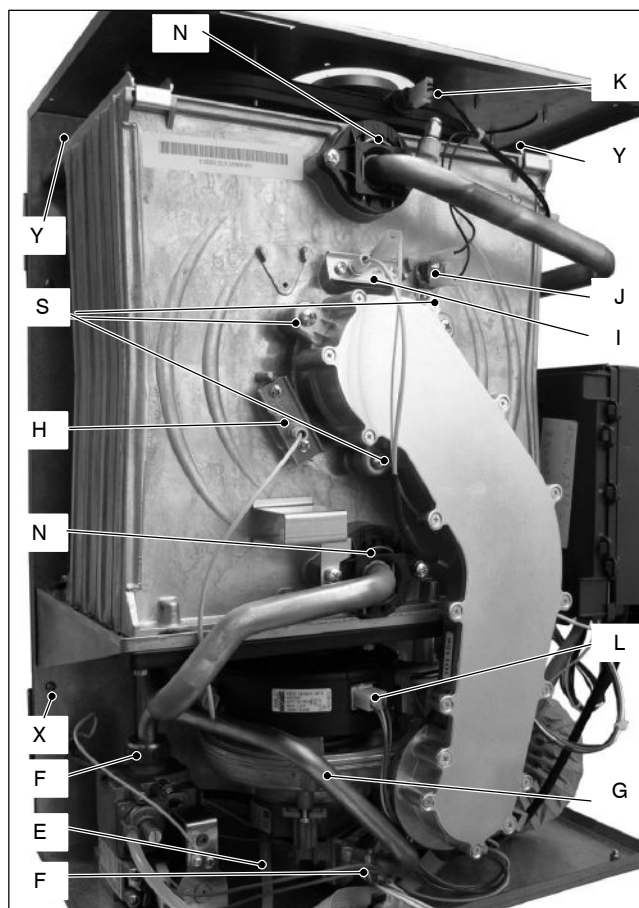
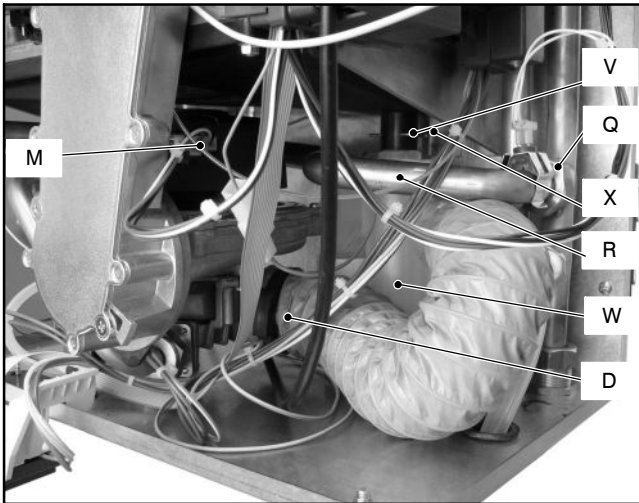

Fig. 5.2
Fig. 5.4
- 4 Disconnect the air manifold *D* (Fig. 5.4) by pulling it.
- 5 Disconnect the rubber pipe *E* (Fig. 5.2).
- 13 Disconnect the fan connector *M* by pressing the plastic hook placed on the side of the connector (Fig. 5.4).
- 15 Remove the forks *N* (Fig. 5.2).
- 17 Loosen the connection *Q* and remove the pipe *R* (Fig. 5.4) from the Condensing heat exchanger.
- 21 Remove the forks *V* and remove the condensate trap *W* moving it downwards (Fig. 5.4).
- 22 Loosen the screws *X* (Fig. 5.4 – Fig. 5.2)
- 23 Unscrew the screws *Y* (Fig. 5.2).
- 24 Remove the Condensing heat exchanger slightly move it upwards, turn it frontwards freeing it from the below screws *X* (Fig. 5.4 – Fig. 5.2) and then extract it forwards.
Ensure to tighten the screws *S* – Fig. 5.2 firmly